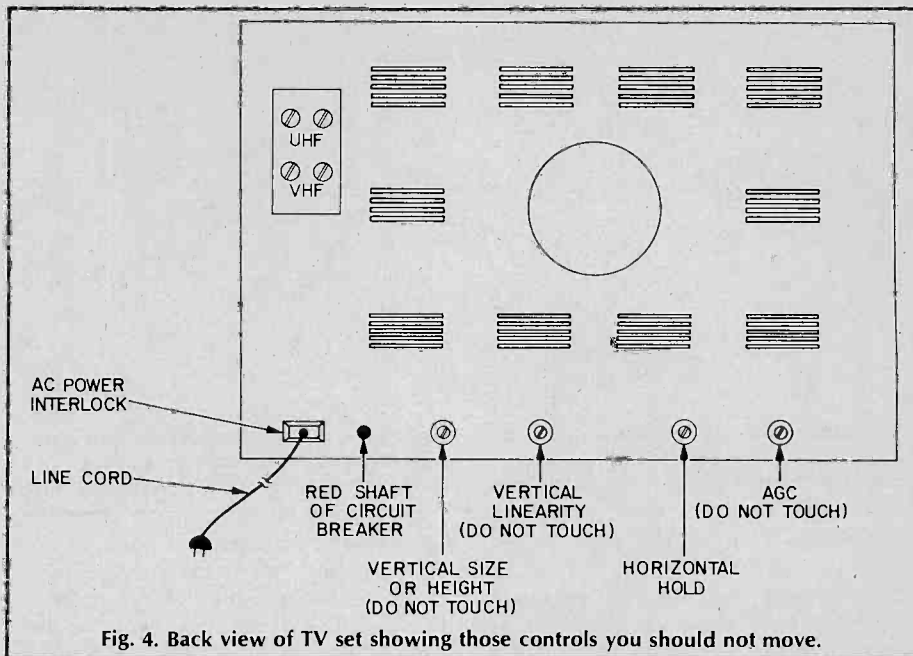

Fig. 4. Back view of TV set showing those controls you should not move.
**Scrambled Pictures.** If you can see that there is a good strong picture signal present, but it's what many people call "scrambled," you have a "sync problem." Every TV set has two controls to hold the picture in place, or "in synchronization" (and from now on it's "sync" for short). Strangely enough, we call these the "hold" controls. One holds the picture vertically, and the other horizontally. In the older sets, these controls will be at the bottom of the front panel; in portables, they may be on the side; and in some sets, on the back apron of the chassis (Fig. 4). They'll be marked "H(orizontal) Hold" or "V(ertical) Hold."